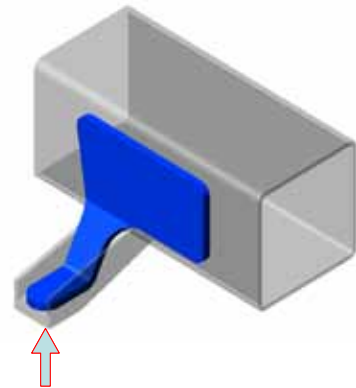

Figure 63
- Remove left hand stiffener plate and mark (scribe) drill location of strut rod-end hole though OE bracket to right hand stiffener tab. Figure 63 (arrow)